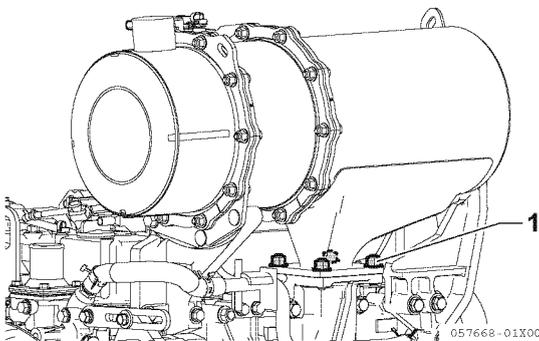

Figure 13-26
- Replace the exhaust manifold flange gasket with a new one, place the DPF unit upon this, and temporarily tighten the flange nuts (4 pcs.) (1 Figure 13-26).